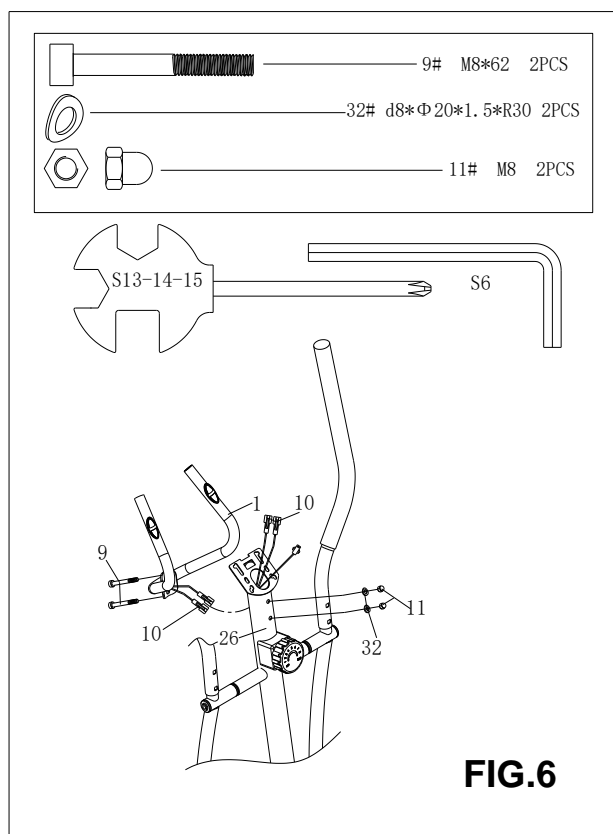

FIG.6
Connect the Sensor shown in FIG.6, Install the Middle handlebar(1) on the Upright Post (26) with bolt(9) Arc Washer (32) and nut(11).